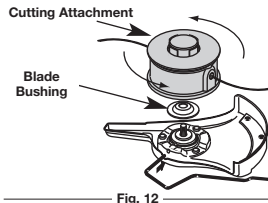

Fig. 12
5. Align the shaft bushing hole with the locking rod slot and insert the locking rod into the shaft bushing hole (Fig. 7). Place the blade retainer on the output shaft with the flat surface against the output shaft bushing (Fig. 12). Screw the cutting attachment counterclockwise onto the output shaft. Tighten securely.
NOTE: The blade retainer must be installed on the output shaft in the position shown for the cutting attachment to work correctly (Fig. 12).